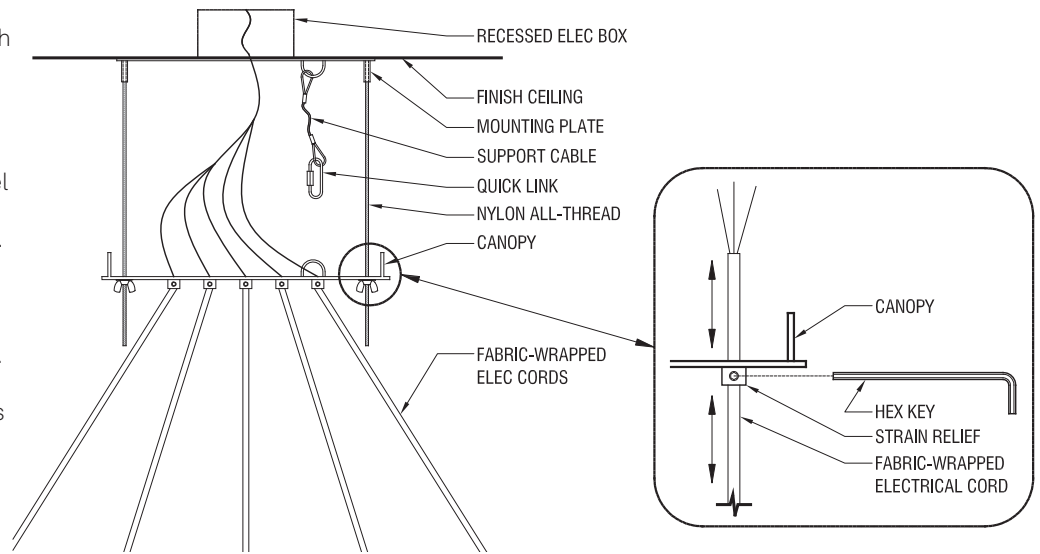

Figure 5. Wiring the fixture / adjusting and checking level
- 7 Supporting the brass bar, carefully pass each cord through its strain relief on the canopy and gently tighten each strain relief enough to support the fixture (*Figure 5*). Adjust the cord lengths until the bar is level and the desired overall drop length of the fixture is achieved. Tighten the set screw strain reliefs - Do not overtighten or damage the fabric covering or the electrical cords themselves. Leaving enough extra length to make the electrical connections in the canopy, trim any excess length of electrical cord - when trimming the fabric-wrapped electrical cords make sure to use electrical tape or other means to secure the fabric at the location of the cut, and then at the cut end to avoid splaying or fraying or slack in the fabric.